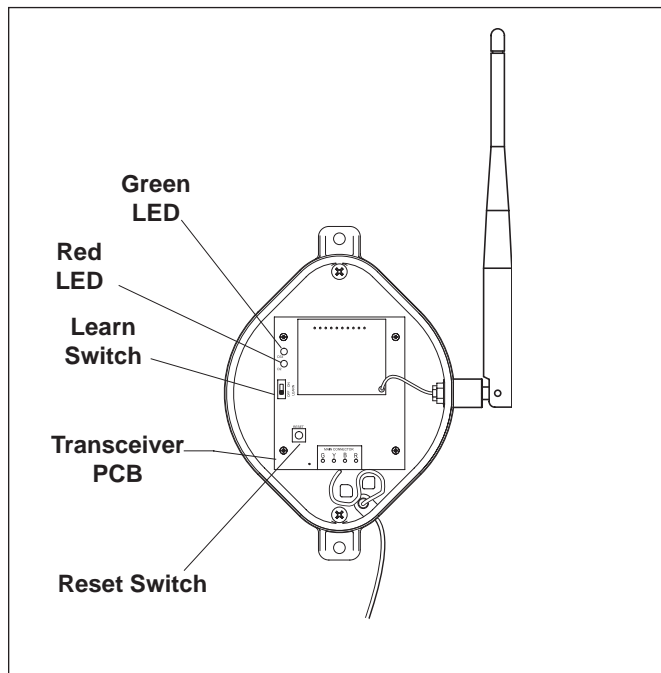

Figure 20. PDA Transceiver J-Box - Internal View
1. At the Transceiver J-box, remove the cover to expose the PCB (see Figure 20).